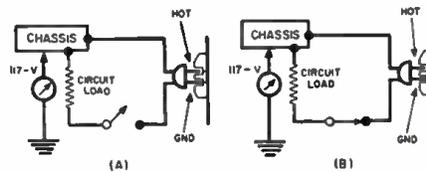
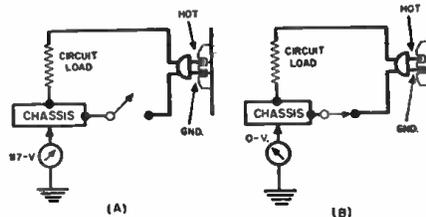

Fig. 1. With power-switch location shown, shock hazard is always present.
Fig. 2. In this arrangement, chassis is hot only when equipment is turned off.
There are two basic a.c.-d.c. circuit designs. For each, safety is affected by the two possible ways of connecting the equipment to the power receptacle. In addition, safety is affected by the two operating positions of the power-control switch. A survey of possible switch locations is included in Figs. 1 through 4.
The two basic designs, irrespective of other conditions, are illustrated in Figs. 1 and 2. Figs. 4 and 3 are of the same circuits as Figs. 1 and 2 respectively, but are shown with the line cords reversed in the power receptacle. Part (A) of each figure is shown with the power switch in the "open" condition; part (B) of each with the switch in the "closed" condition. The individual circuit diagrams incorporate voltmeter indications to show at a glance the critical readings between chassis and earth ground. Table 1 presents a summary of features to be discussed.
Fig. 1 presents the classic case in which danger from electrical shock exists under all conditions of equipment operation. The line cord is plugged into the receptacle in a manner that connects the equipment chassis directly to the hot side of the power line. Operation of the power switch to either the open or closed position does not succeed in removing the connection between chassis and the hot line because the switch operates in the ground line. The operator of equipment wired in this manner who comes into contact with the chassis while also in contact with a source of earth ground (plumbing in the home, etc.), will inevitably receive an electric shock.
Fig. 2 is the case in which danger from electric shock exists only in the "equipment off" condition. In this case the line cord is plugged into the receptacle in a manner that connects the hot side of the power line to the equipment load. With the switch open, the ground line is open and the hot line potential is applied to the chassis. When the power control switch is closed, the ground side of the power line is connected to the equipment chassis and the operator touching the chassis or its exposed metal parts is safe from electric shock. The effect of shock with the switch off in this case may be less severe than in the case of Fig. 1, incidentally, since the circuit load drops some of the available voltage and limits the current when the body completes the path to earth ground.
A circuit that combines the better characteristics of the circuits in Figs 2B and 3A is shown in Fig. 4. This configuration places the chassis in the leg of the circuit connected to the ground side of the power line, and places the power-control switch in the leg of the circuit connected to the hot side of the power line. Careful examination will indicate that this arrangement, exclusive of the polarity of the connection to the power receptacle, is identical to the "dangerous" design shown in Fig. 1. Note therefore that, once the desired design is chosen, safety becomes